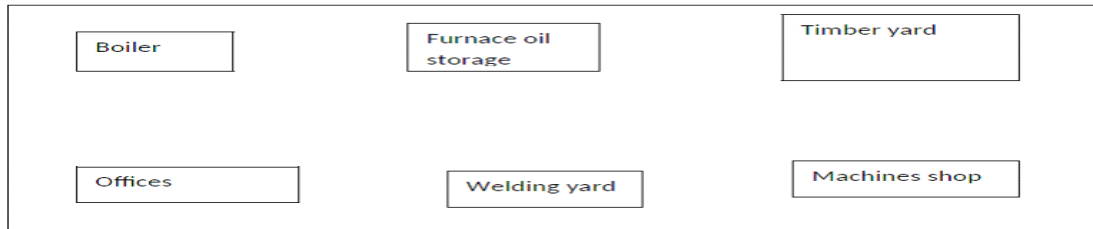

Figure 2 :Plant Layout of Jua Kali Industry
- a) The plant layout of Jua Kali industry is as shown Figure 2 below. Of late management there is rampant fire outbreak. A Mechanical Engineer has been contracted to carry out an audit and give recommendation.